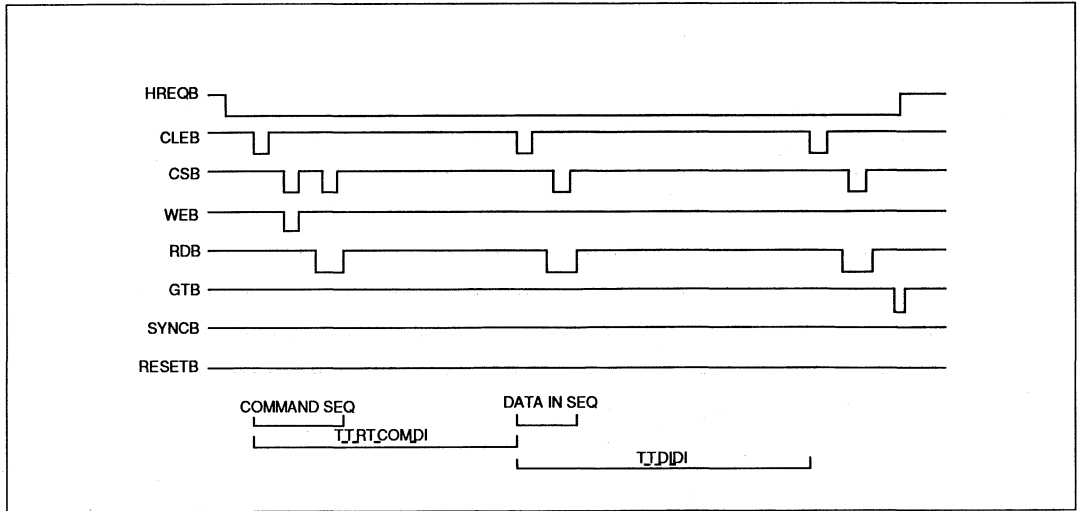

Figure 2.7: Transmit Command RT-RT
**TRANSMIT COMMAND RT-RT** (Figure 2.7)